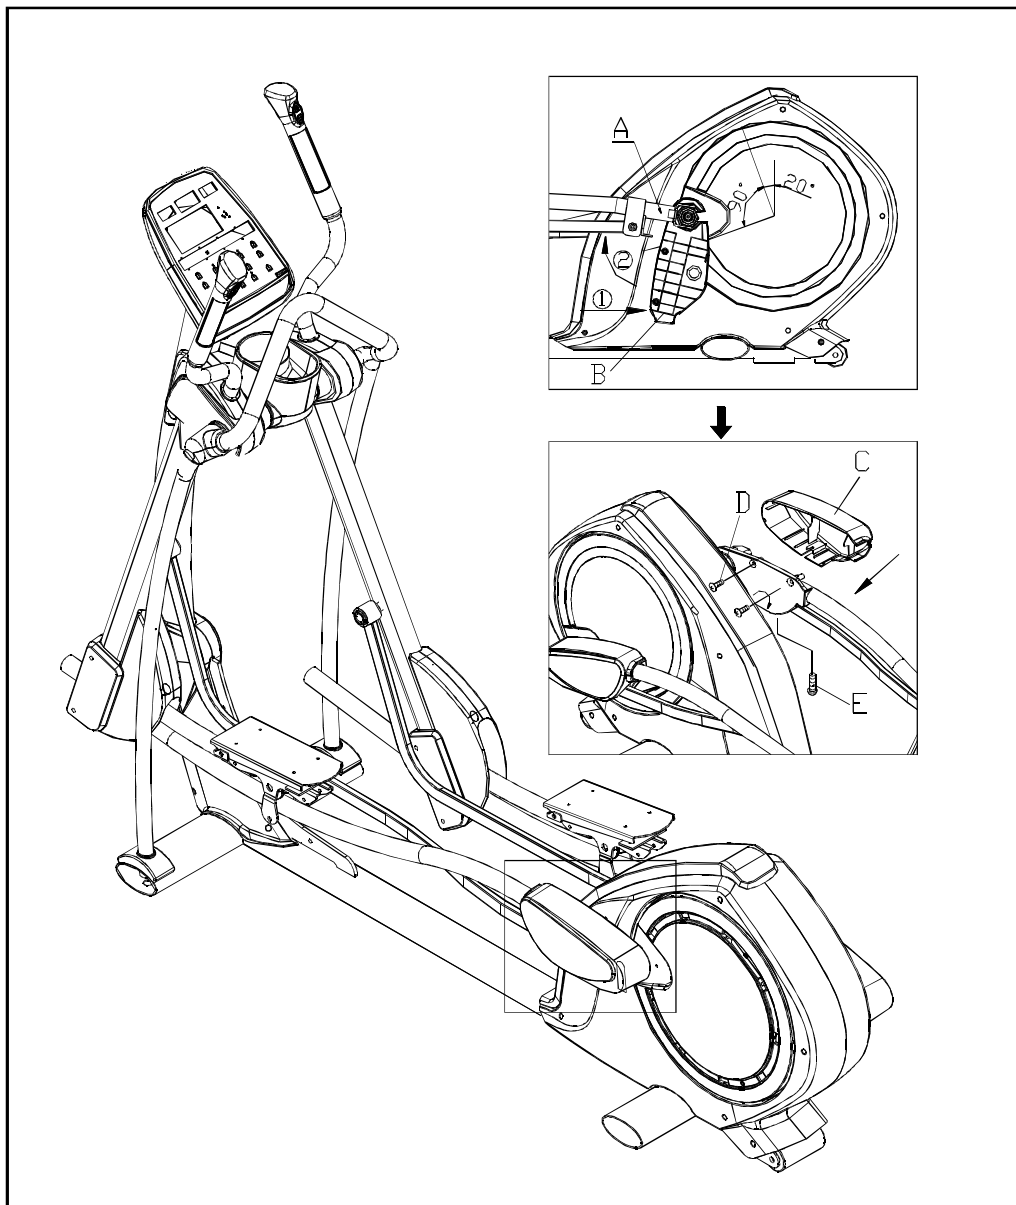

Fig.6
**STEP 1.** Move the Glide Rail (A in the top right diagram of Figure 6) to the upper left part of the flywheel within the 90-degree indication. Hook the Park B onto the Glide Rail.